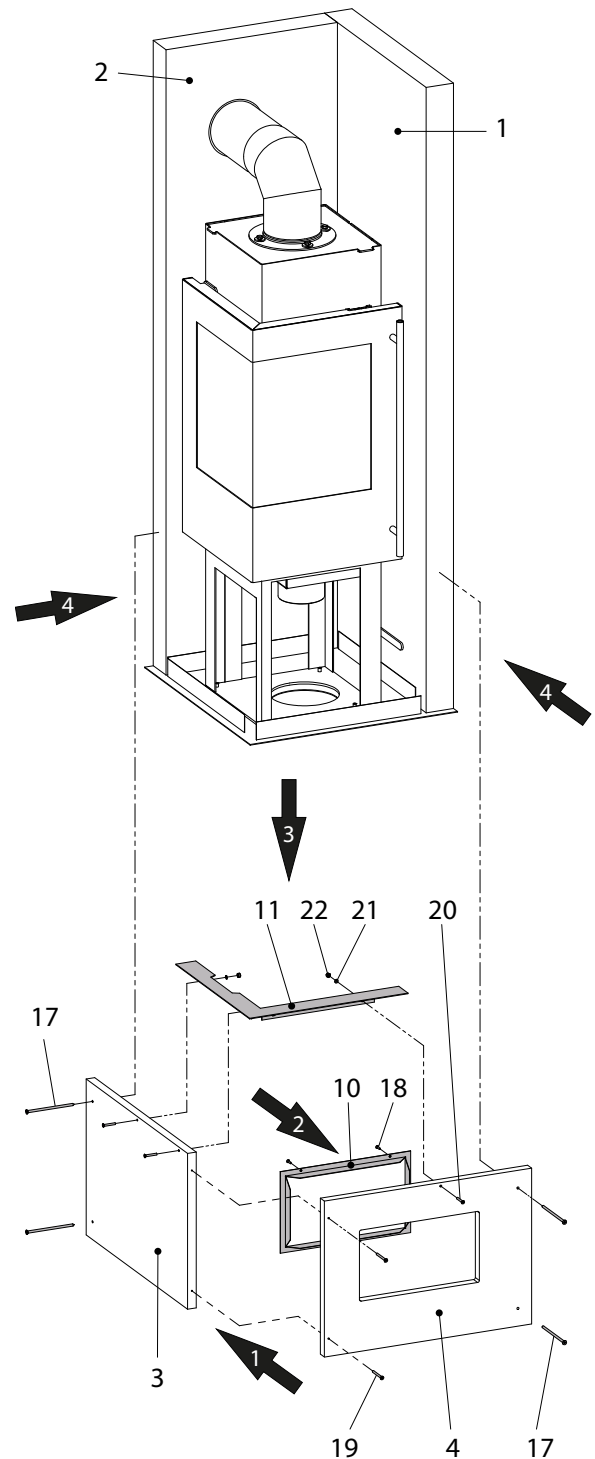

Fig.6
**Before gluing together cladding panels 3+4 (Fig.6):** Place cladding panels 3+4 on a level surface in their installation position and glue them together before screwing them together using 2 chipboard screws Ø5x60 (19). Insert the air grille frame (10) into the cladding (4) from the rear and fix it in place using 4 chipboard screws Ø4x20 (18). Screw plaster frame bottom (11) to cladding boards 3+4 using 3 countersunk screws M5x35 (20), washers (21) and hexagon screws M5 (22). Position the pre-assembled cladding panels 3+4 on the base plate, glue them together with insulation boards 1+2 and screw them together with 2 chipboard screws Ø6x140 (17).